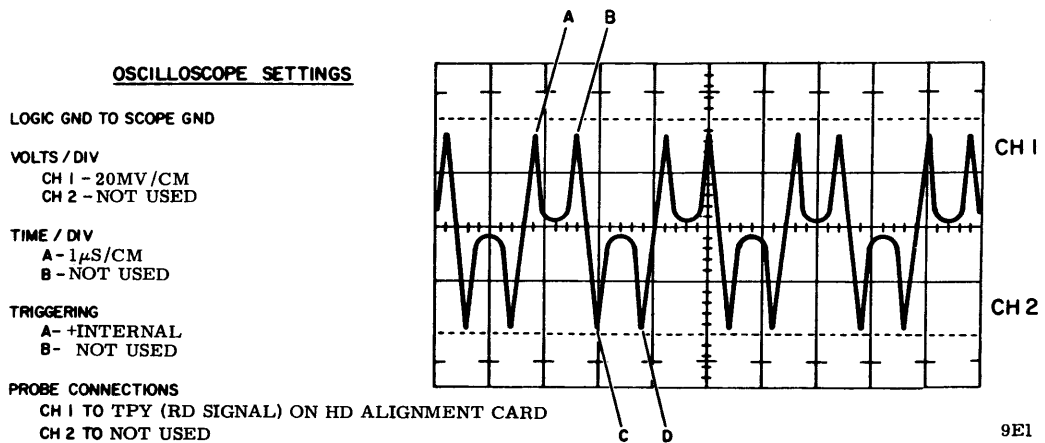

Figure 4-3. Head Alignment Waveform
3. Command direct seek to cylinder 004 (000).
4. Observe dibit pattern on oscilloscope. It should be similar to that shown on figure 4-3.
1. Set S/RW switch to RW. Observe that dibit pattern is similar to that shown on figure 4-3.
13. Observe oscilloscope and adjust head to obtain balanced dibit pattern. Pattern is balanced when point A amplitude equals point B and point C equals point D (see figure 4-3).